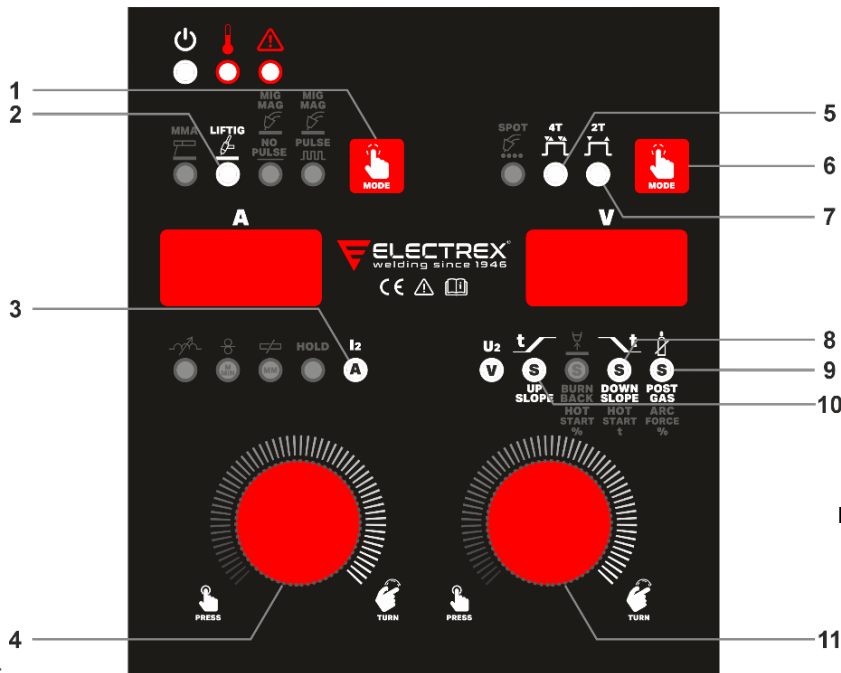

Fig 10.
- Select TIG welding mode by pressing key 2 (Fig.10) until LED 2 (Fig.10) lits.
8.4.1. Parameters in LIFTIG welding (See Fig.10)
-Select torch mode by pressing key 6 (Fig. 10) until LED 5 (Fig.10) lits for 4T torch mode or LED 7 (Fig.10) for 2T torch mode.